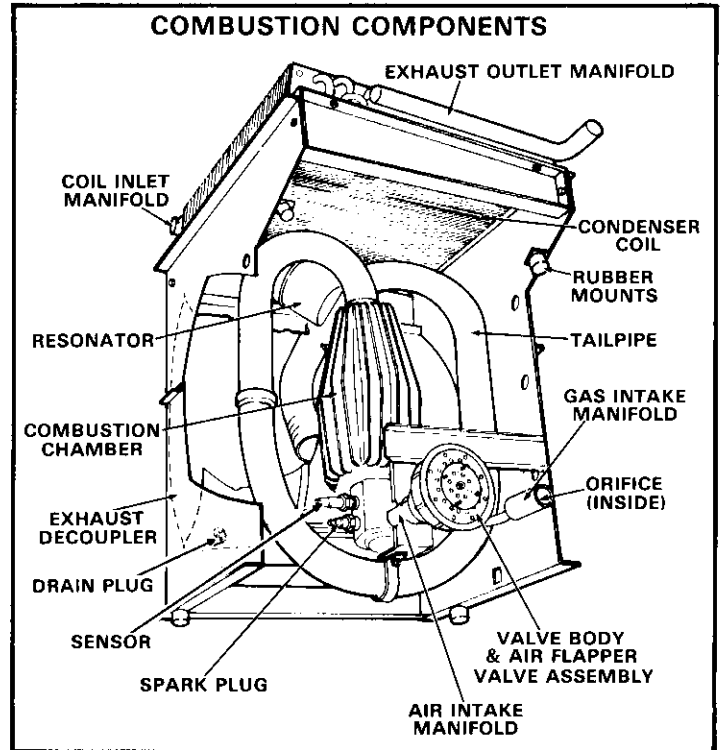

FIGURE 15
K - Combustion Chamber and Heat Exchange Assembly (Figure 15)
- 1 - The spark plug and sensor are located on the lower left side of the combustion chamber opposite the gas intake (see Figure 15). The sensor is the top plug (nearest to the blower) as is longer than the spark plug. The spark plug is in the lower position (farthest from the blower). The plugs cannot be interchanged due to different thread diameters.